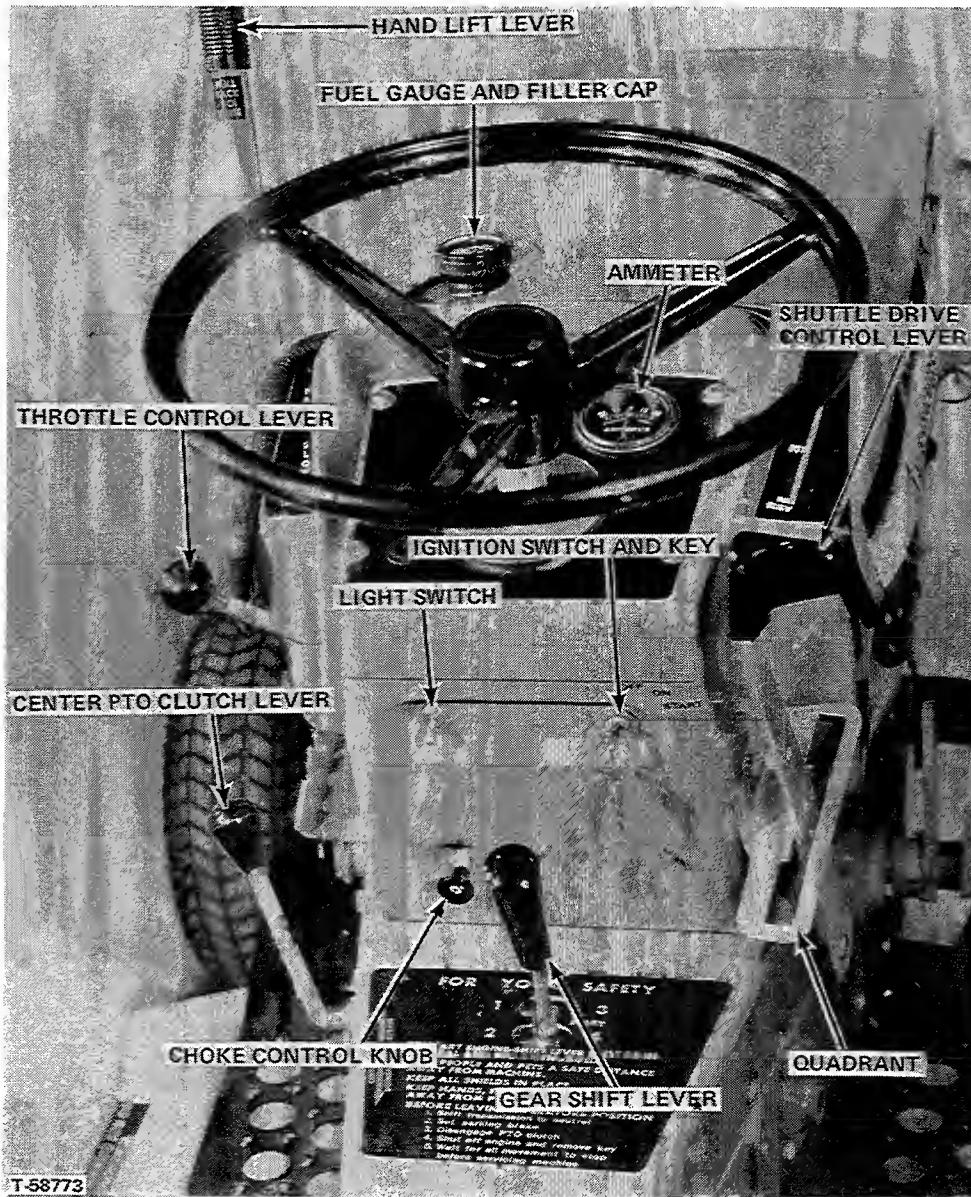

FIGURE 4 - Shuttle Clutch Transmission Tractors
1. GEAR SHIFT LEVER (Figure 4)
2. SHUTTLE DRIVE CONTROL LEVER (Figure 4)
3. LIGHT SWITCH (Figure 4)